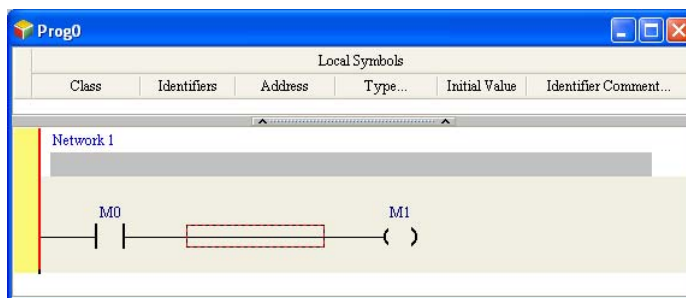

Figure 6-23 PLC program
- Step 9: The users have to design a PLC program, and download it. Please refer to ISPSoft User Manual for more information about writing a PLC program. In this example, the state of M1 varies with the state of M0. Please see Figure 6-23. The users have to set the communication format and the station address of a PLC. Please refer to operation manuals for more information about setting related registers.